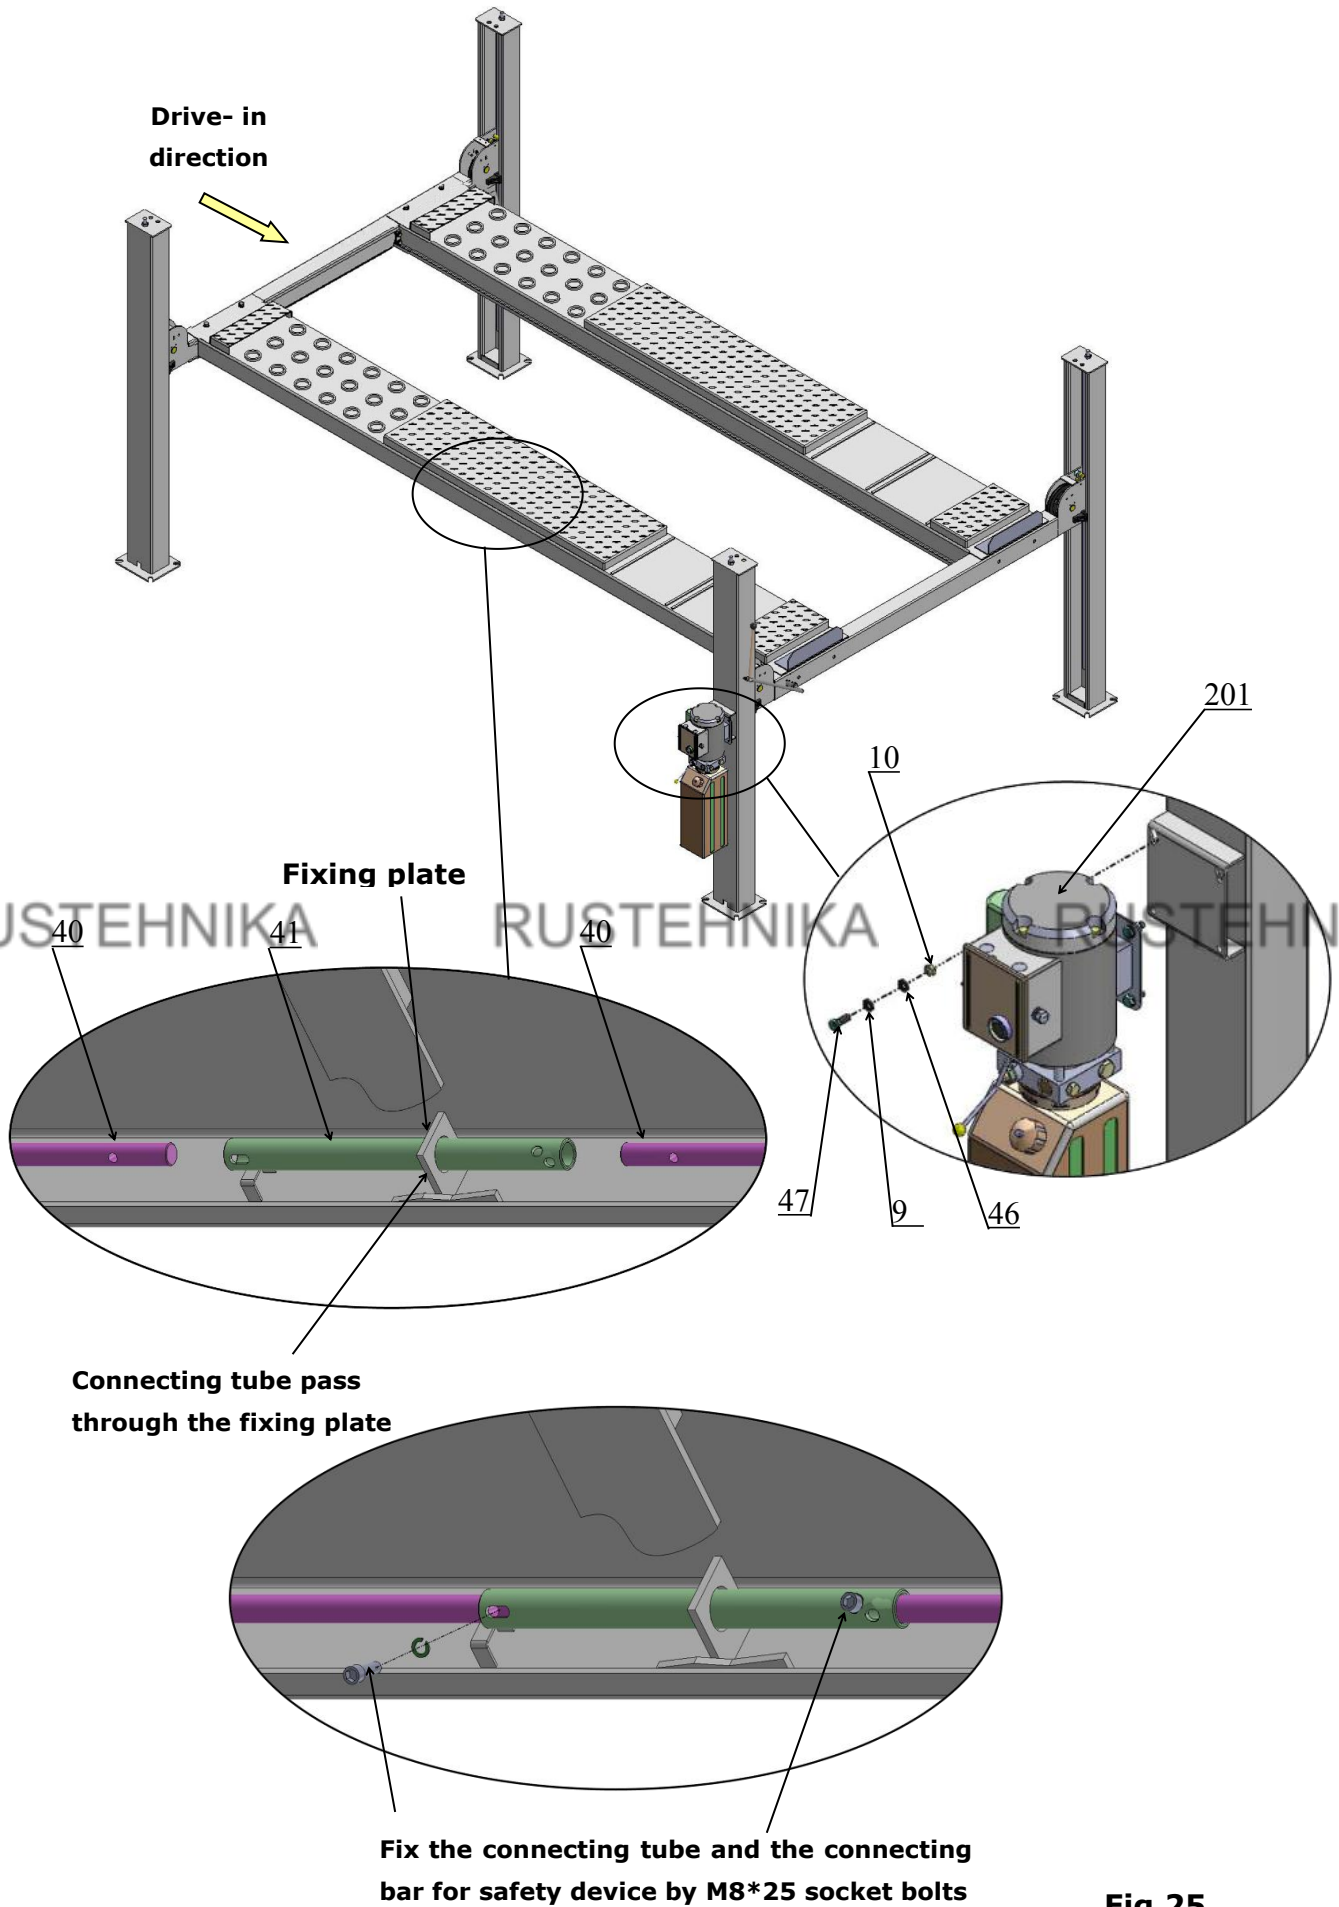

Fig.25
K. Install power unit and connecting tube(See Fig.25)